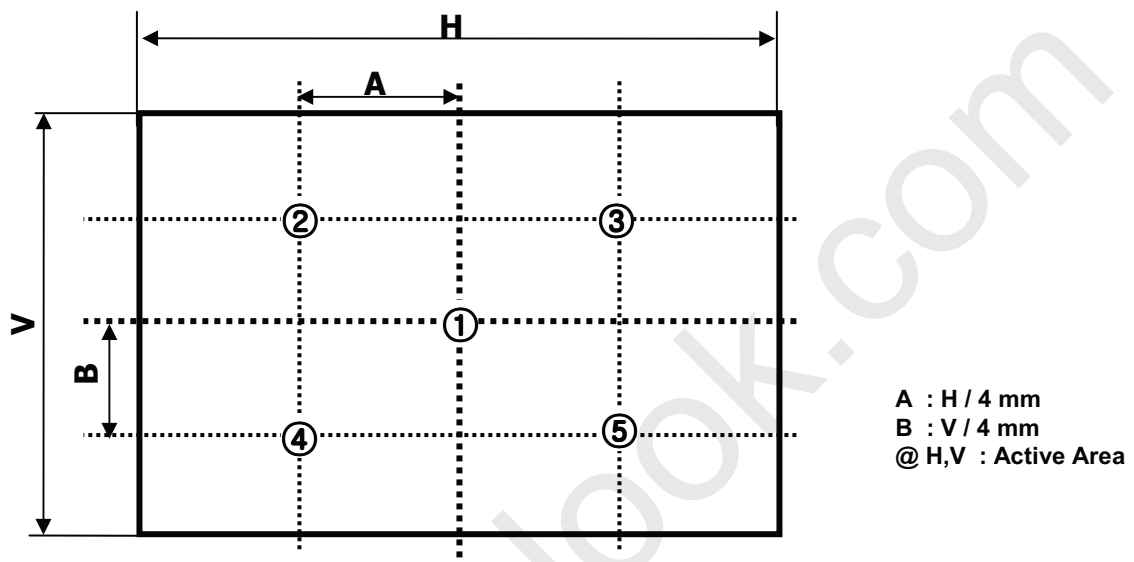

FIG. 2 5 Points for Luminance Measure
2. Surface luminance are determined after the unit has been 'ON' and 30min after lighting the backlight in a dark environment at  $25 \pm 2^\circ\text{C}$ . Surface luminance is the luminance value at center 1-point across the LCD surface 50cm from the surface with all pixels displaying white. For more information see the FIG. 2.
For more information, see the FIG. 2.